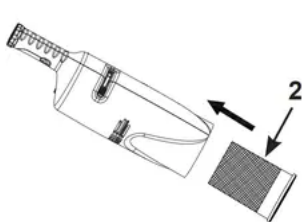

Fig 2.1
1. Insert the filter bag with gasket (2) into the vacuum body See fig 2.1.